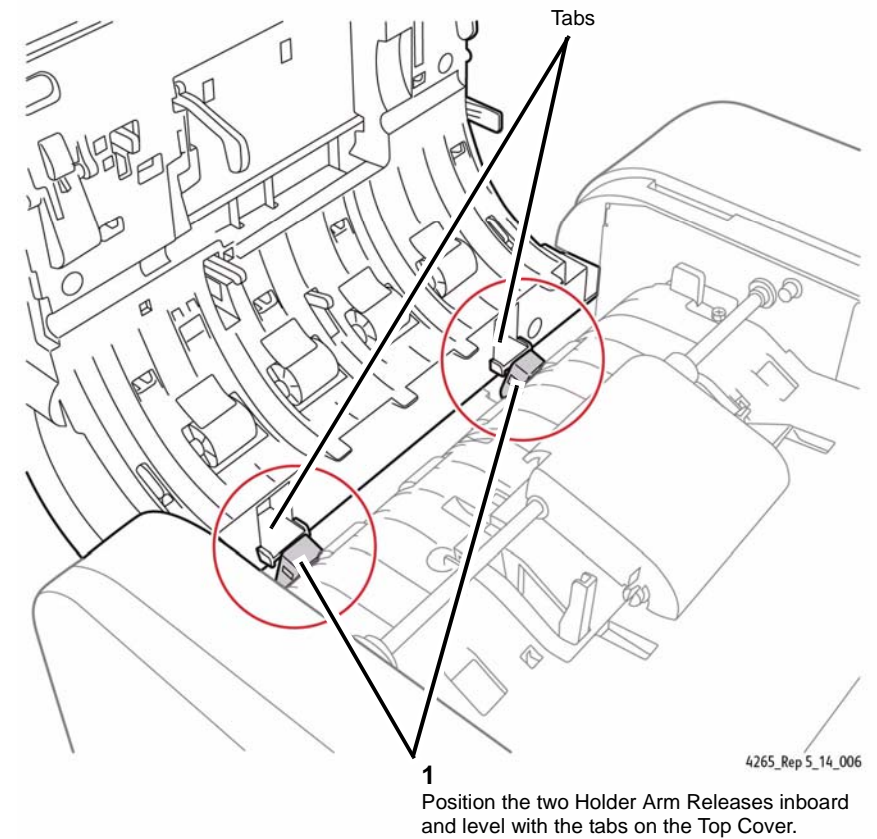

Figure 6 Checking the Position of the Holder Arm Releases
1. When positioning the Top Cover for installation, ensure that the two spring-loaded Holder Arm Releases are positioned **inboard and level** with the two tabs on the Top Cover (Figure 6).